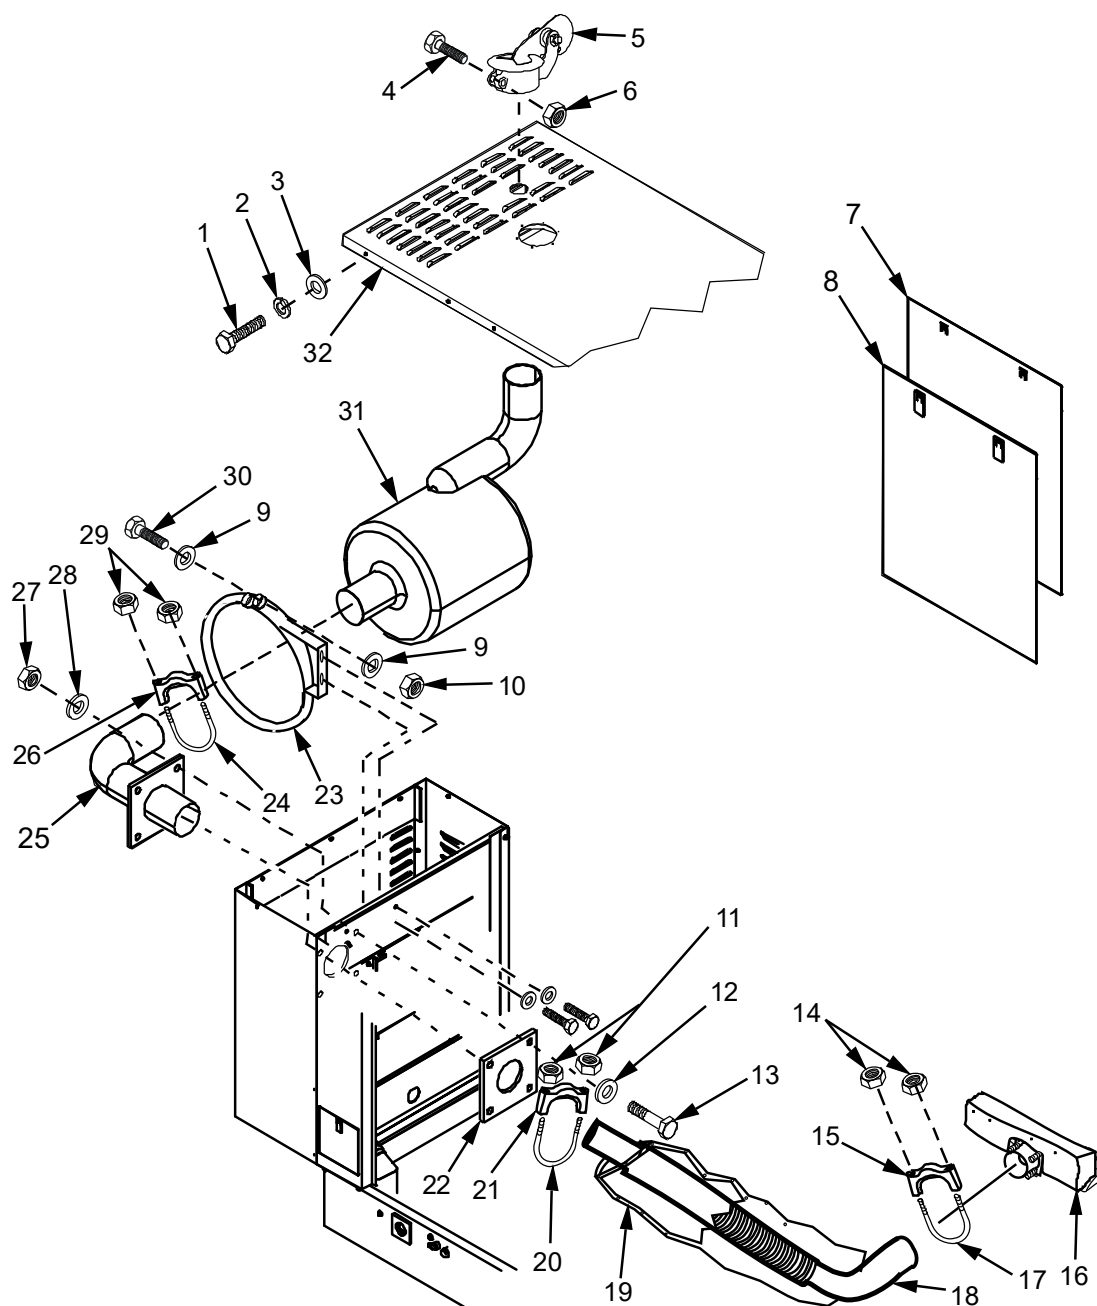

Figure 1. Exhaust Flex Pipe, Elbow and Muffler Removal/Replacement.
5. Install exhaust flex pipe (Figure 1, Item 18) onto exhaust pipe elbow (Figure 1, Item 25).
6. Assemble U-bolt (Figure 1, Item 20) and clamp (Figure 1, Item 21). Position on exhaust pipe elbow (Figure 1, Item 25) and secure using two nuts (Figure 1, Item 11).
8. Install top access panel (Figure 1, Item 32) to Genset enclosure and secure with 20 sheet metal screws (Figure 1, Item 1), lock washers (Figure 1, Item 2) and flat washers (Figure 1, Item 3).
9. Install exhaust pipe cap (Figure 1, Item 5) and tighten nut (Figure 1, Item 6) and bolt (Figure 1, Item 4).
10. Install two access panels (Figure 1, Items 7 and 8).
3. Loosen but do not remove nut (Figure 1, Item 6) and bolt (Figure 1, Item 4) that secures exhaust pipe cap (Figure 1, Item 5). Remove exhaust pipe cap (Figure 1, Item 5) and set aside.
4. Remove and retain 20 sheet metal screws (Figure 1, Item 1), lock washers (Figure 1, Item 2) and flat washers (Figure 1, Item 3) that secures top access panel (Figure 1, Item 32) to Genset enclosure. Remove top access panel (Figure 1, Item 32) and set aside.
5. Remove and retain two nuts (Figure 1, Item 29) from clamp (Figure 1, Item 26) and U-bolt (Figure 1, Item 24).
6. Remove and retain clamp (Figure 1, Item 26) and U-bolt (Figure 1, Item 24).
7. Loosen but do not remove bolt (Figure 1, Item 30), nut (Figure 1, Item 10), and two flat washers (Figure 1, Item 9) that secure mounting bracket (Figure 1, Item 23) to muffler (Figure 1, Item 31).
8. Slide muffler (Figure 1, Item 31) away from exhaust pipe elbow (Figure 1, Item 25) and out of mounting bracket (Figure 1, Item 23).
1. Slide muffler (Figure 1, Item 31) into mounting bracket (Figure 1, Item 23) and connect to exhaust pipe elbow (Figure 1, Item 25).
2. Position muffler (Figure 1, Item 31) in mounting bracket (Figure 1, Item 23) and tighten bolt (Figure 1, Item 30), nut (Figure 1, Item 10) and two flat washers (Figure 1, Item 9).
3. Install clamp (Figure 1, Item 26) and U-bolt (Figure 1, Item 24) and secure using two nuts (Figure 1, Item 29).
4. Install top access panel (Figure 1, Item 32) to Genset enclosure and secure with 20 sheet metal screws (Figure 1, Item 1), lock washers (Figure 1, Item 2) and flat washers (Figure 1, Item 3).
5. Install exhaust pipe cap (Figure 1, Item 5) and tighten nut (Figure 1, Item 6) and bolt (Figure 1, Item 4).